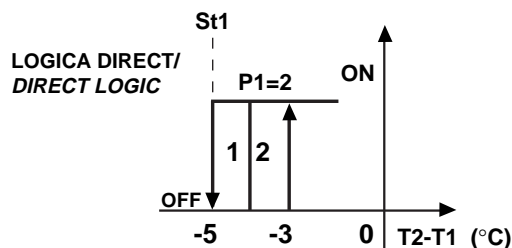

Fig.19
**Solution 1b:** if you want to give priority to T2 (e.g. low temperature threshold=6°C with one minute's delay) locate the main sensor NTC1 at the water outlet. The parameters will be set as follows: St1=-5°C (NTC1-NTC2, that is T2-T1), direct mode (C0=1). P25=6 and P28=1 (min.) allow you to set the low temperature alarm, as shown in the diagram below (fig. 19):